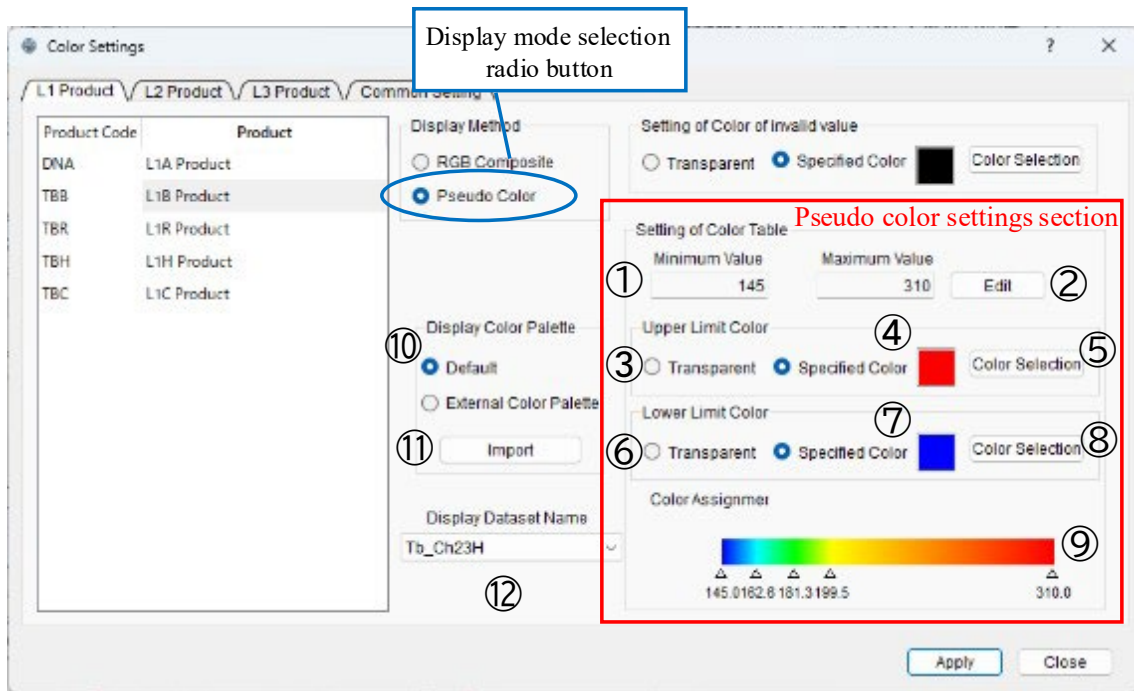

Figure 10-5 Explanation of Pseudo-Color Setting Section
Table 10-2 provides descriptions and actions for items ① to ⑫ in the Pseudo-Color Settings Section, indicated by the red frame in Figure 10-5.